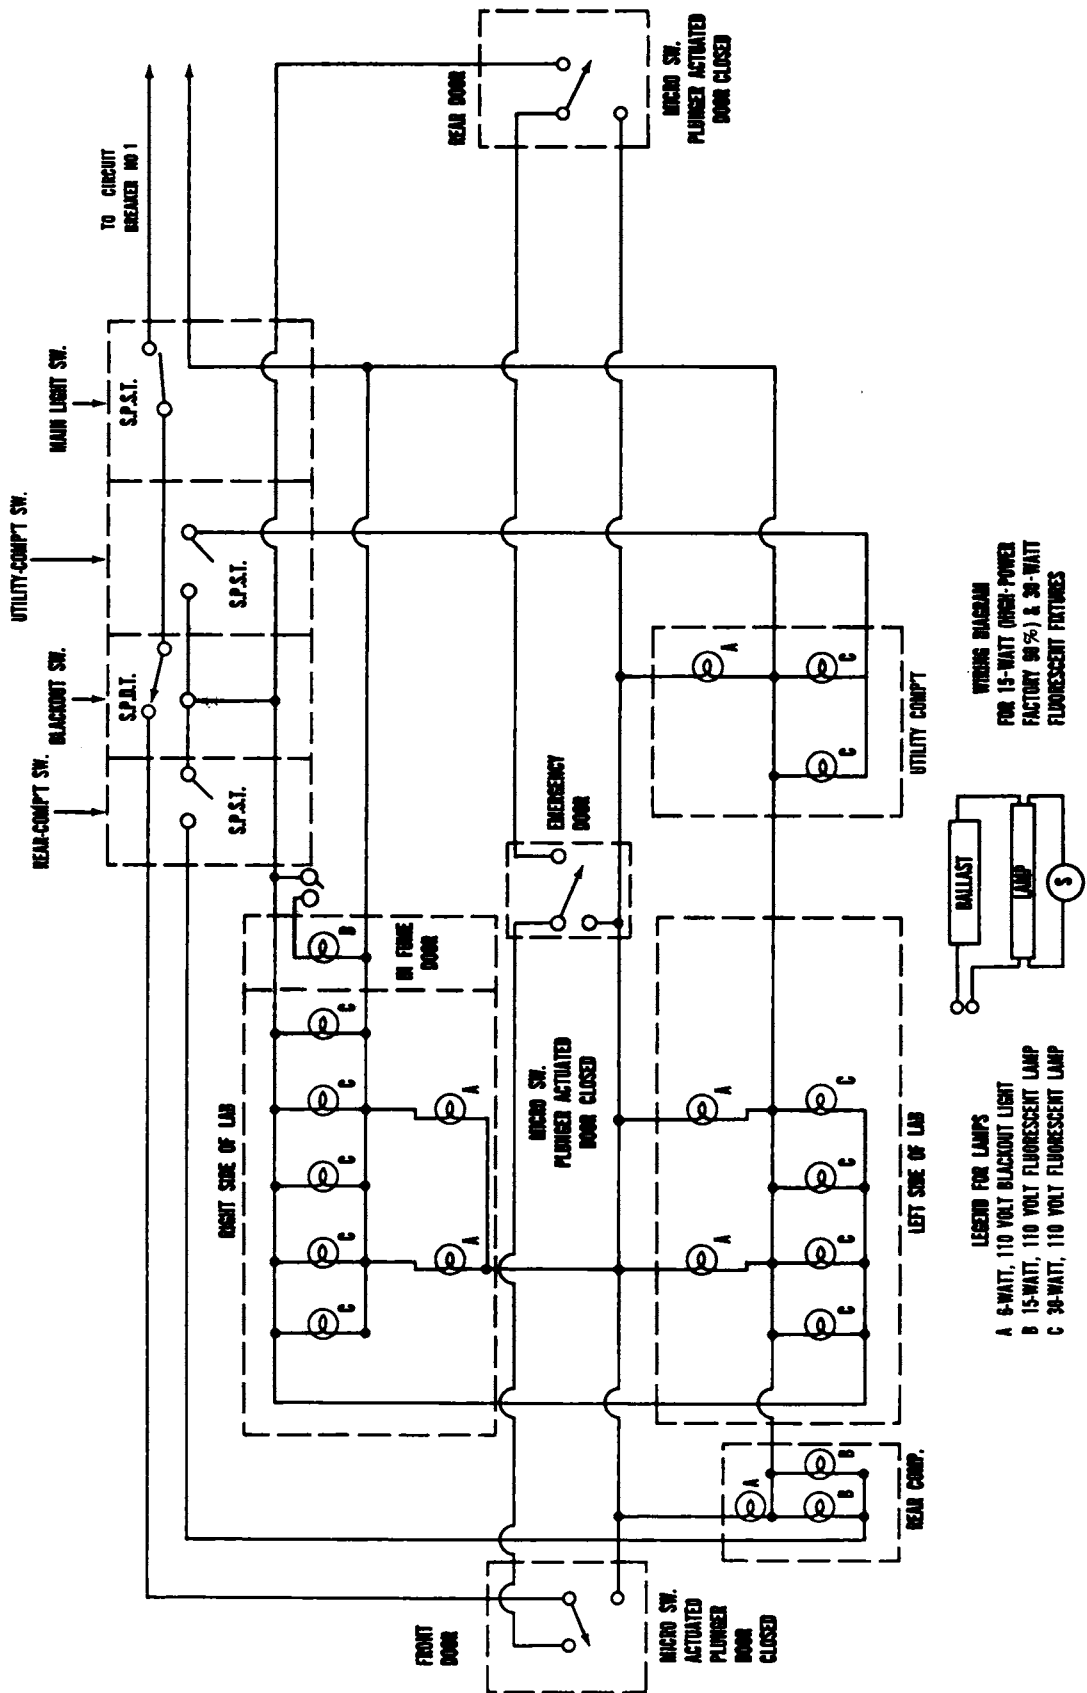

Figure 22. Laboratory lighting system (schematic diagram).
h. Lighting. Each trailer compartment is equipped with fluorescent ceiling lights and small red blackout lights (fig. 22). The laboratory compartment contains nine 30-watt fluorescent lamps, one 15-watt fluorescent lamp (in the fume hood), and four 6-watt blackout lamps. The rear compartment contains two 15-watt fluorescent lamps and one 6-watt blackout lamp. The utility compartment contains two 30-watt fluorescent lamps and one 6-watt blackout lamp. All lights are controlled by the main light switch on the control panel and by circuit breaker switch 1. In addition, ON-OFF switches are included to control lights in the rear compartment and in the utility compartment. The blackout-light circuit is designed so that, when any one of the three doors in the trailer is opened, all fluorescent lights go off and the blackout lights come on. The blackout lights remain on until all doors are closed, at which time the fluorescent lights come back on. Microswitches, located in each of the three outside doorjamb, actuate the circuit. When the blackout switch on the control panel is in the OFF position, current bypasses the microswitches permitting uninterrupted operation of fluorescent lights regardless of position of doors. The blackout switch should be kept in the OFF position except in areas subject to enemy observation or attack.